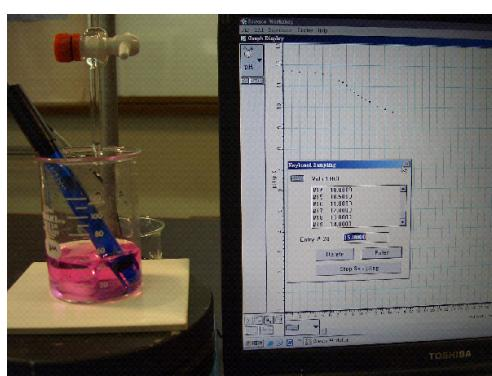

Fig. 3: Setup for pH datalogging
2. Pipette 25 cm³ of the solution mixture into a small beaker and add 2 drops of phenolphthalein indicator. Place a stirrer bar into the alkaline solution and rest the beaker on a magnetic stirrer which is covered by a white tile. Switch on the magnetic stirrer. Lower the pH electrode into the alkaline solution, ensuring that the glass bulb is completely immersed while the stirrer bar is spinning smoothly (see Fig. 3).